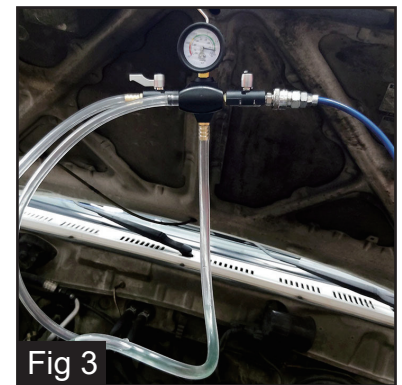

Fig 3
- 10 Open the coolant valve, and the coolant will be introduced to the cooling system automatically (Fig 3)